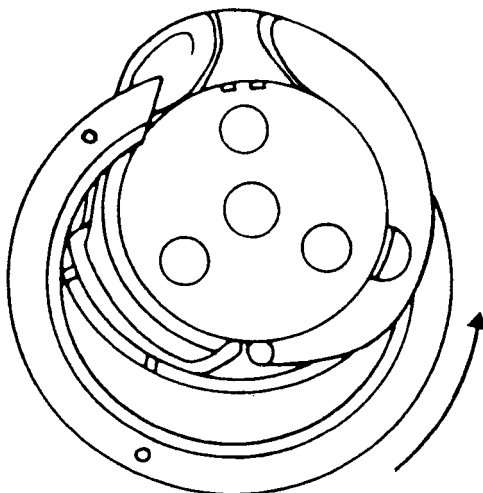

Fig. 104
- Turn the sewing hook gib to the left into the bobbin case base (fig. 104).